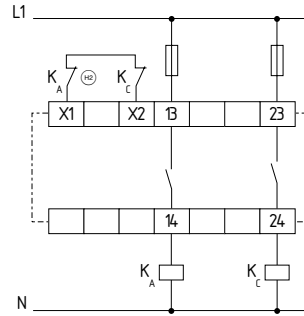

Fig. 8
**Single-channel control with feedback circuit (Fig. 8)**